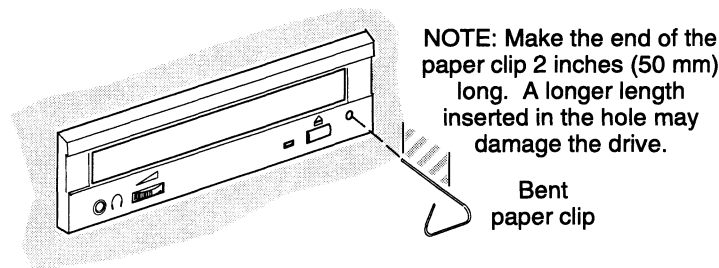

Figure 15 Using the emergency manual-eject mechanism to remove a CD-ROM from the drive
1. Bend a medium size paper clip to the shape and length shown in Figure 15.
2. With the drive's power turned off, push the bent paper clip into the hole (Figure 15). Never push it in more than 2 inches (50 millimeters).